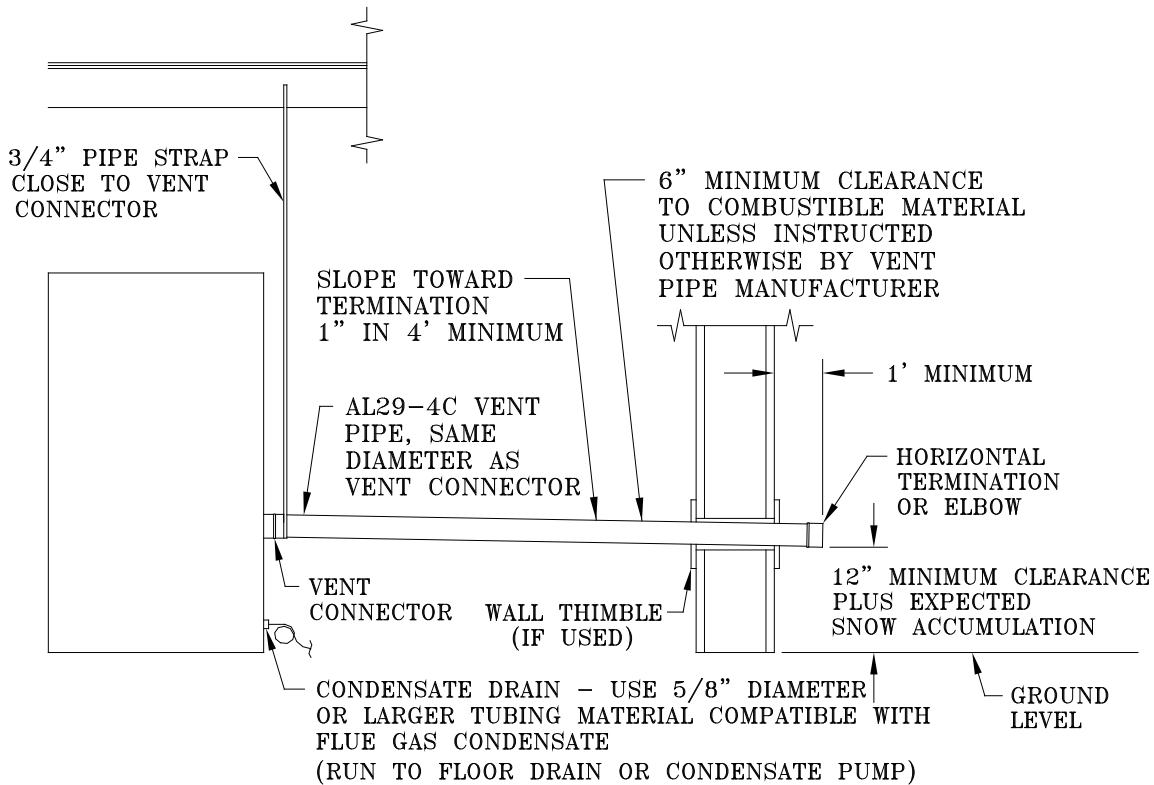
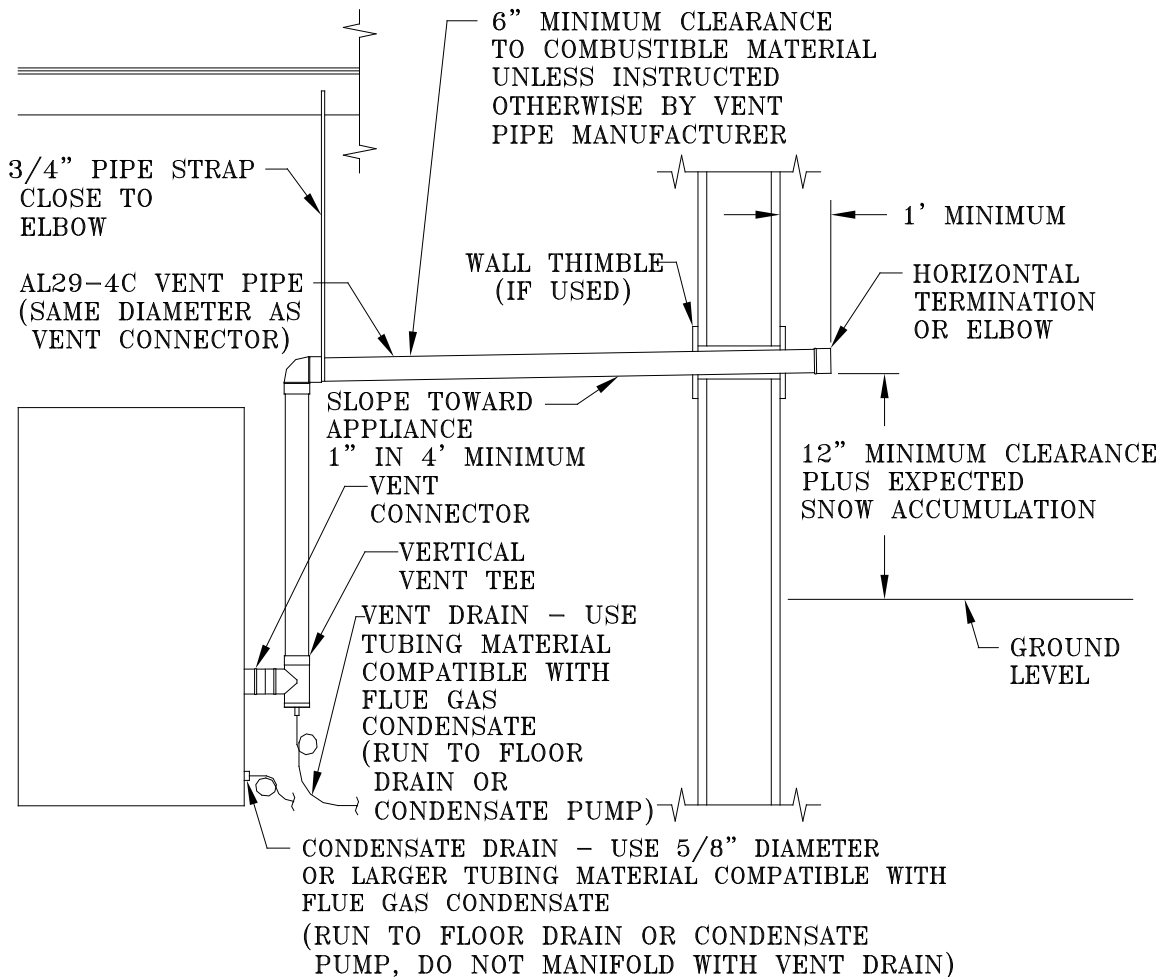
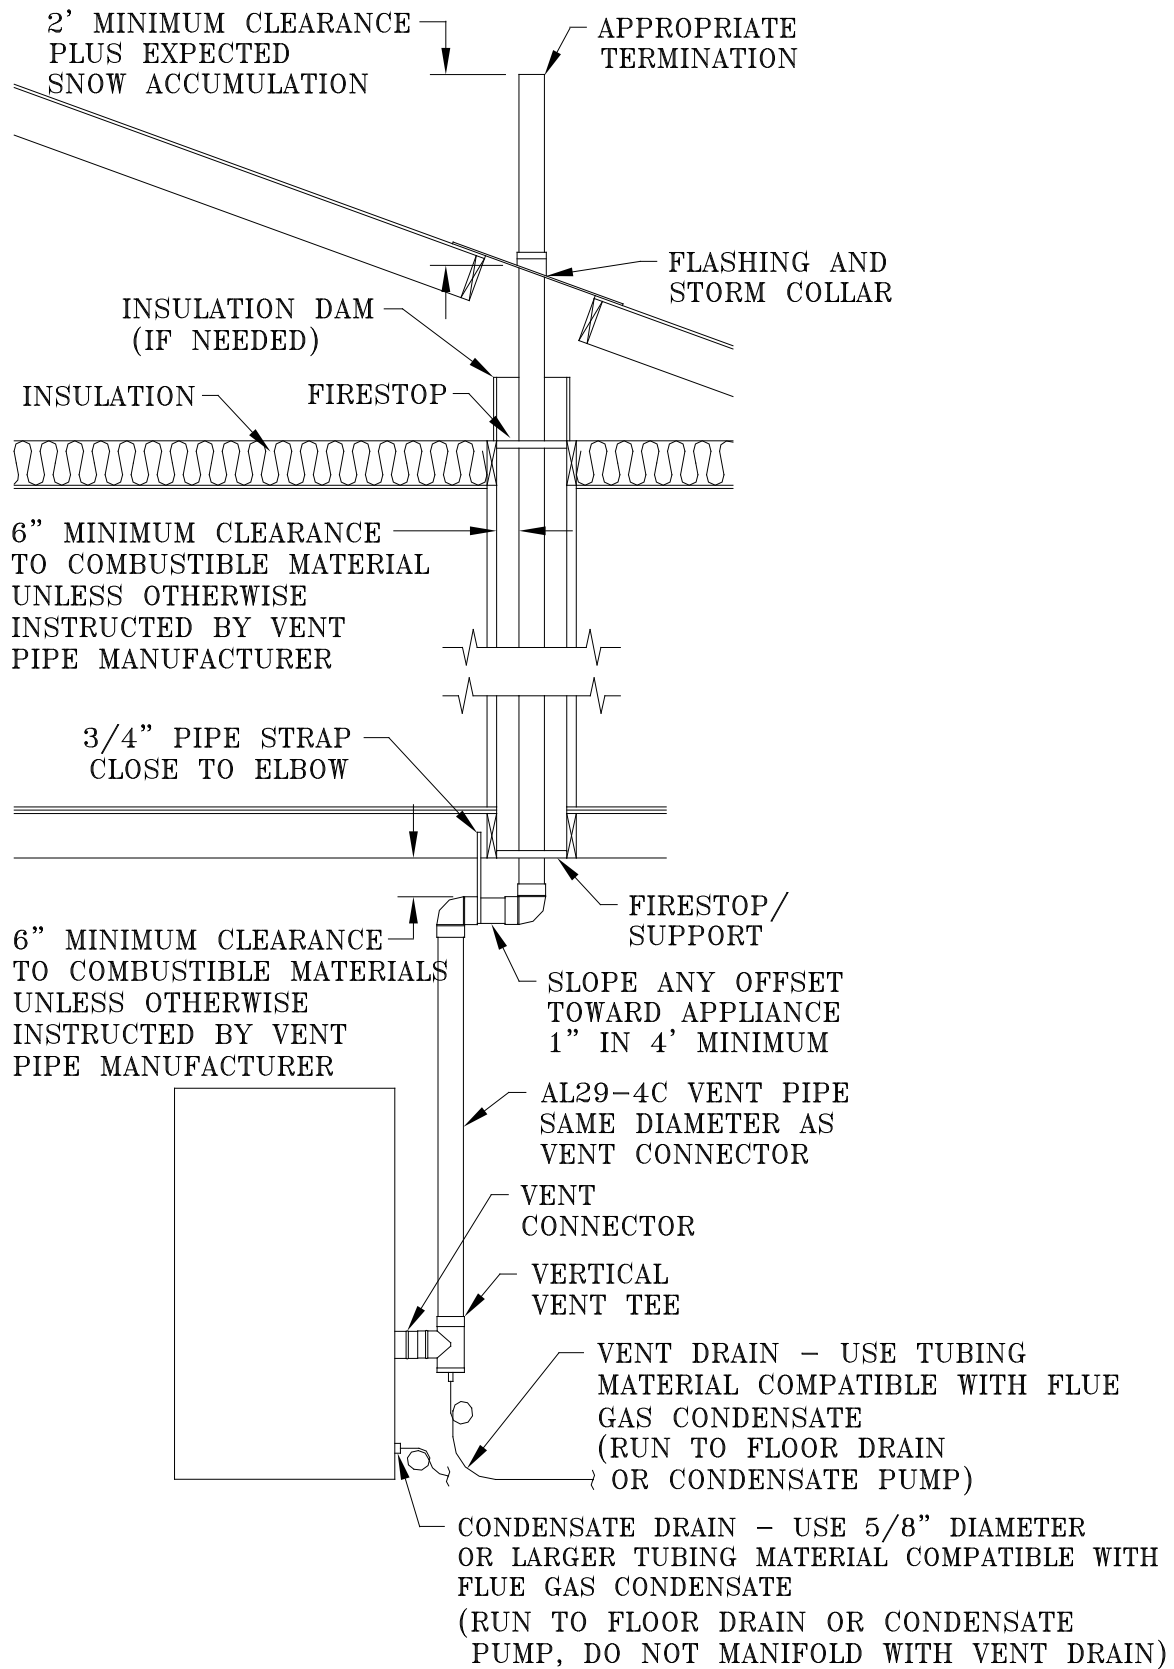

Figure 4: Sidewall Positive Pressure Venting
Figure 5: Sidewall Positive Pressure venting (Optional)
Figure 6: Vertical Pressurized Venting
- e. See Figure 4, Figure 5, and Figure 6 for positive pressure venting arrangements.